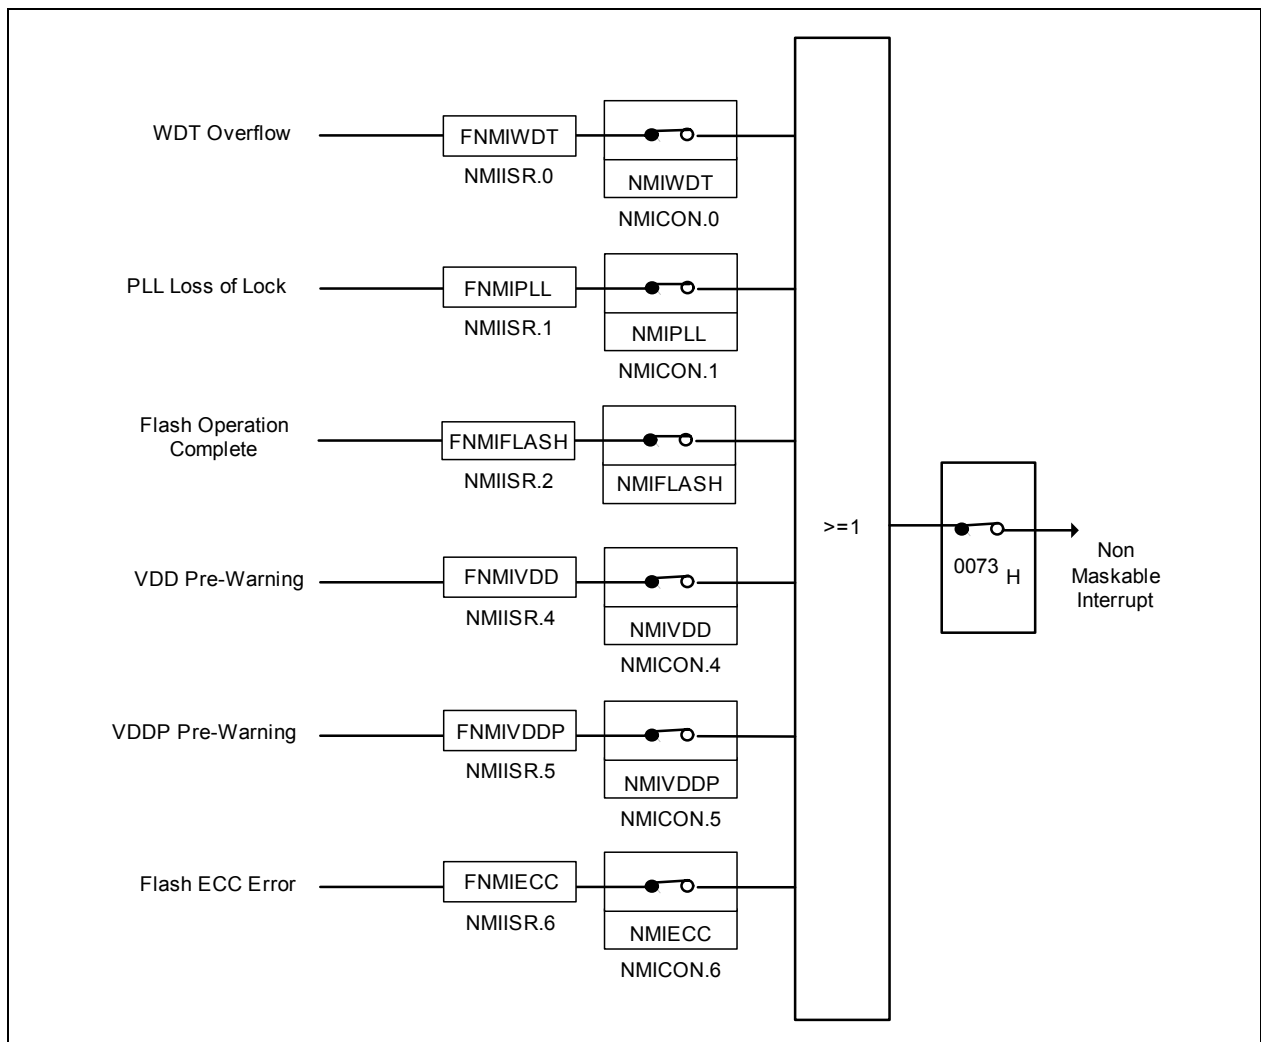
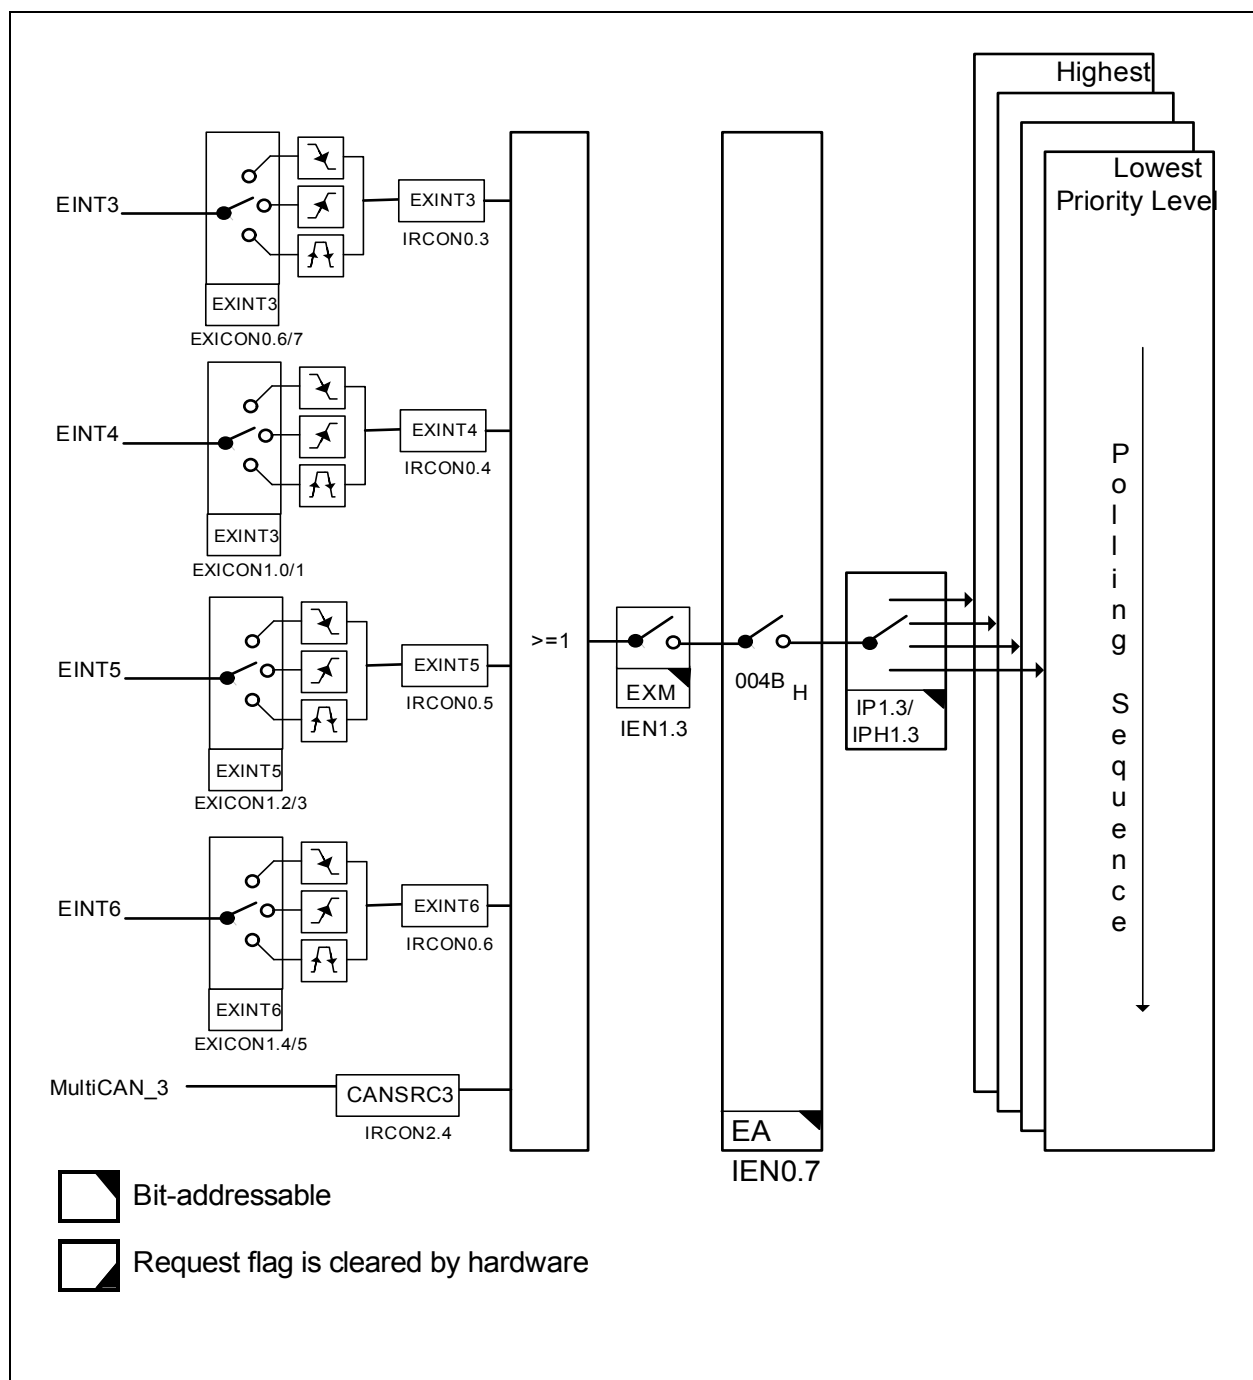

**Figure 13 Non-Maskable Interrupt Request Sources**
**Figure 17 Interrupt Request Sources (Part 4)**
**Figure 13** to **Figure 17** give a general overview of the interrupt sources and nodes, and their corresponding control and status flags.